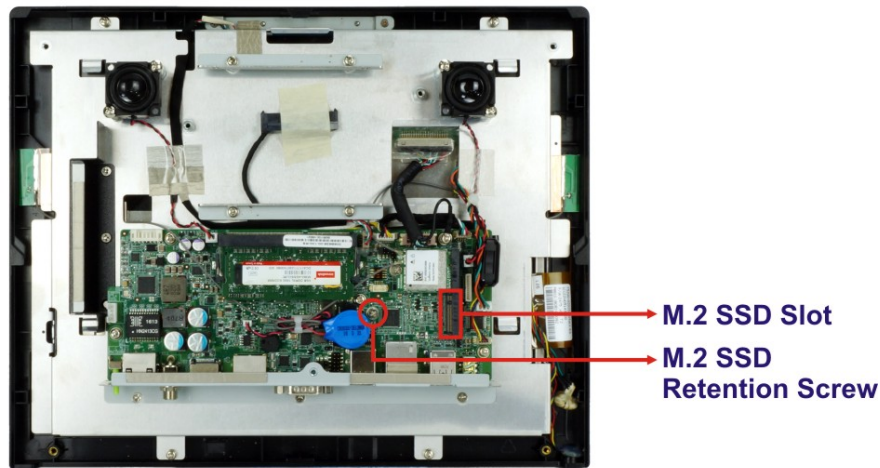

Figure 3-6: M.2 Slot Location
- Step 2:** Locate the M.2 B-key 2242 slot. Remove the preinstalled retention screw on the screw pillar of the M.2 slot as shown in **Figure 3-6**.